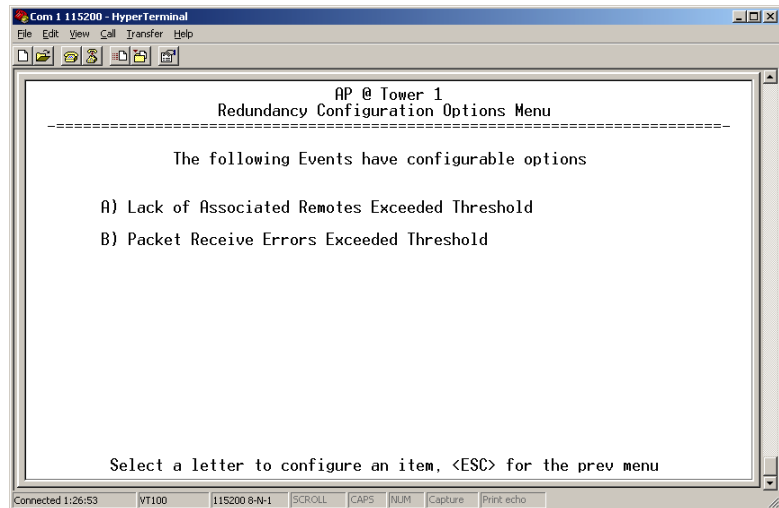

Figure 3-37. Redundancy Configuration Options Menu
- **Redundancy Configuration Options**—Presents a submenu (Figure 3-37) where you can set the threshold criteria for declaring an error event.
This menu (Figure 3-37) is a gateway for setting the thresholds for the Lack of Associated Remotes and Packet Receive Errors. Selecting either item presents a submenu where settings can be viewed or changed.